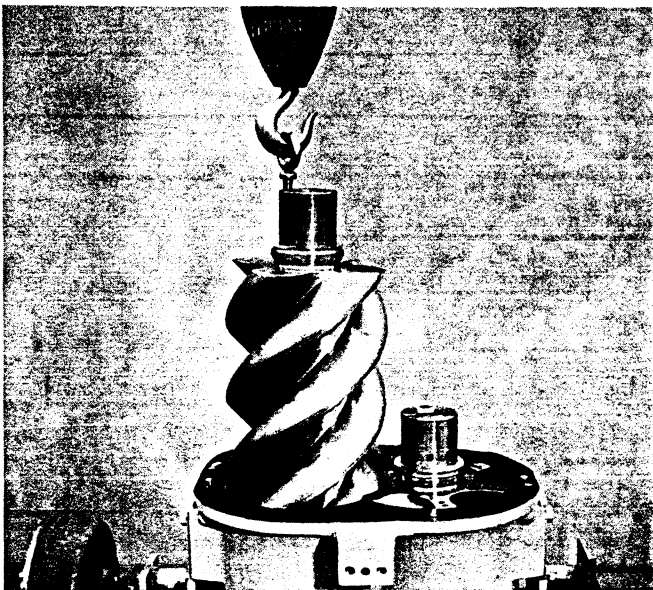

Figure 18
14. Remove the rotors from the rotor housing. This can be done by first attaching an eye bolt to one of the $\frac{1}{2}$ " - 13 tapped holes in the end of the rotor shaft. Each rotor may then be lifted out of the rotor housing. Refer to Figure 18. The inner races of the front roller bearings will remain with the rotors as they are removed from the rotor housing. Using the proper tool, remove the external retaining ring from the shaft of the female rotor; then, remove the roller bearing inner